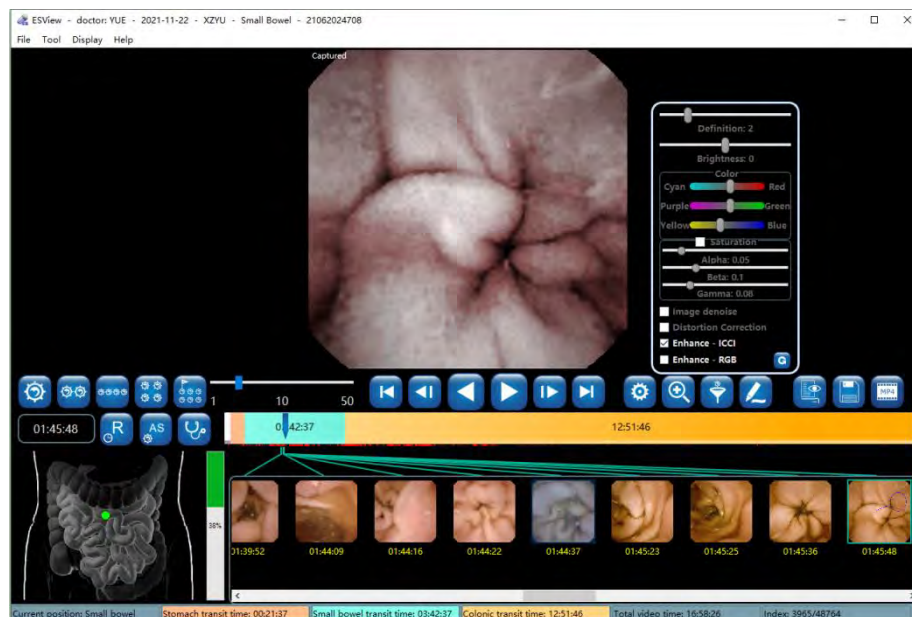

Figure 4-34: Image Enhancement - ICCI
4. Check the “Enhance - ICCI” box to achieve the post-processing effect (Figure 4-34).